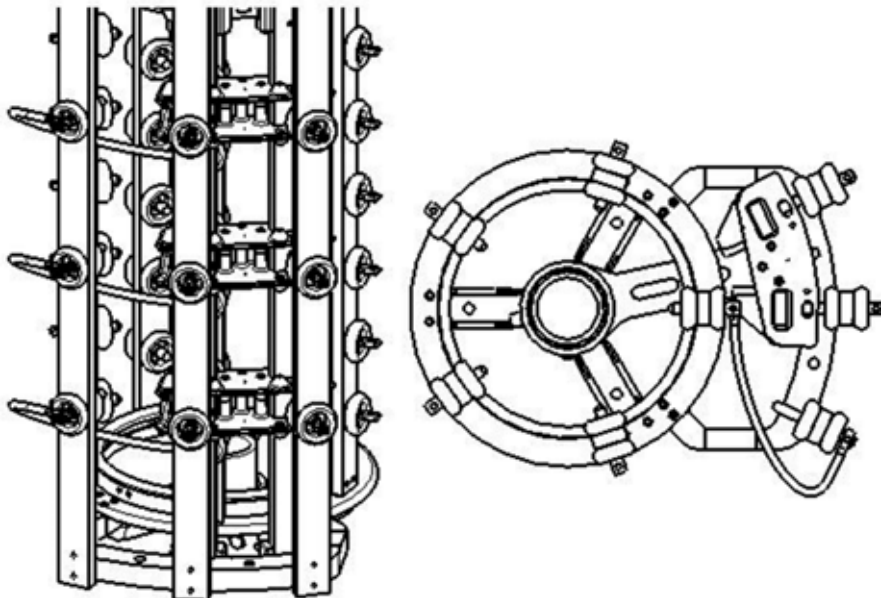

Figure 37 Coarse & fine tap selector
Coarse & fine tap selector's terminals (+), (-) and (0) are similar to those of reversing tap selector. Therefore, the connection method is the same (Figure 37).